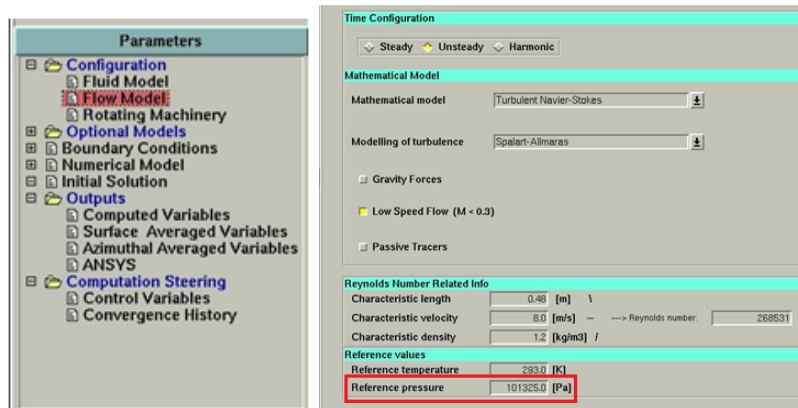

Figure 1: Setting the reference pressure in Fidelity Fine Turbo GUI
- When sending relative wall force (RelWallForce) or relative pressure (e.g. Overpressure) a reference pressure must be defined in the Reference Values Panel in Flow Model, which usually corresponds to the atmospheric pressure (see Figure 1).